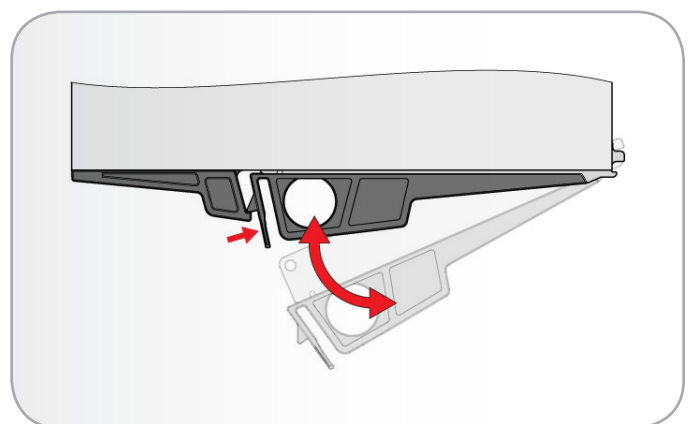

Fig. 47 - Securing the Module Latch Handle
3. Continue to push the module until it fully seats. A click should be heard as the handle latch engages (Fig. 47).